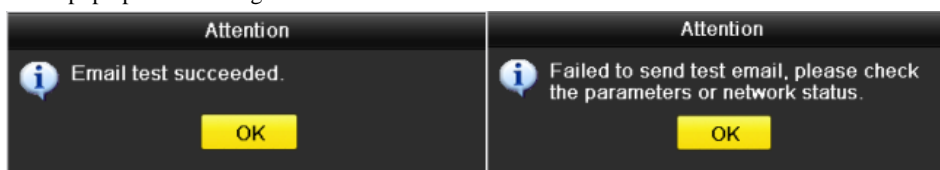

Figure 11. 22 Email Testing Attention
7. You can click **Test** button to test whether your Email settings work. The corresponding Attention message box will pop up. Refer to Figure 11. 22.